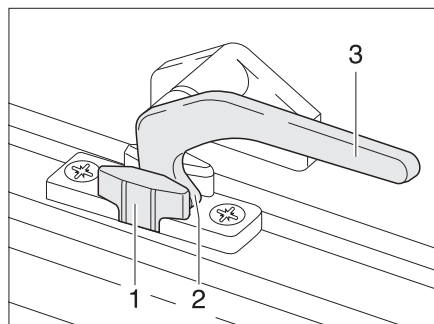

Fig. 40 Catch lever in the "continuous ventilation" position
- "Continuous ventilation" (Fig. 40)
- Turn the catch lever (Fig. 40,3) a quarter turn towards the centre of the window.
- Turn the catch lever a quarter turn towards the window frame. The locking catch (Fig. 40,2) has to be moved into the recess of window catch (Fig. 40,1).